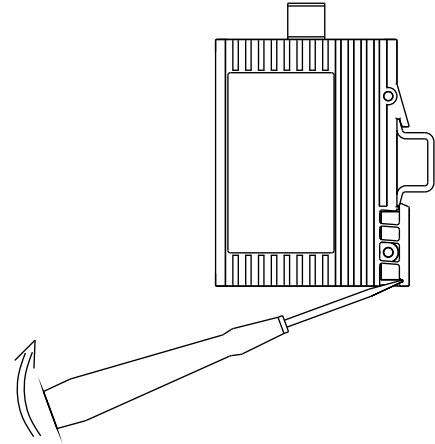

Fig. 7: Dismantling
- To take the Q.NET-5TX/-8TX off the ISO/DIN rail, unlock the snap-in mechanism according to Fig 7.